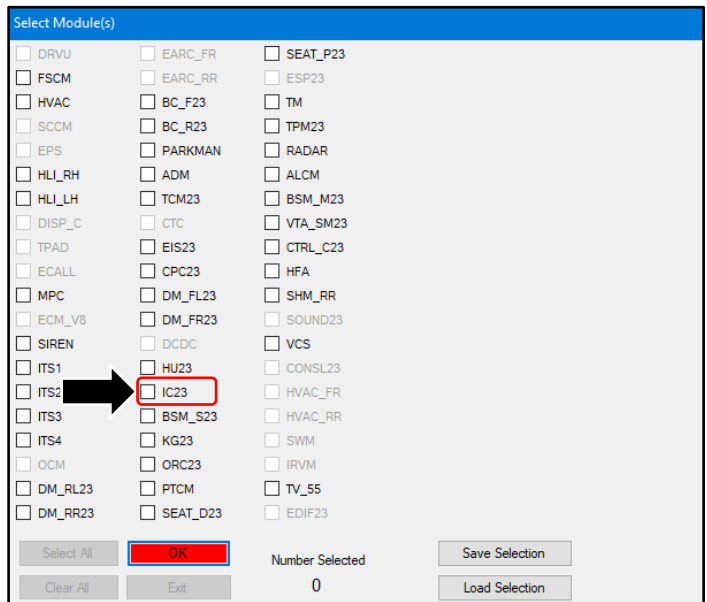

Figure 6
10. Select the "IC23" module then click the "OK" button (refer to Figure 6).